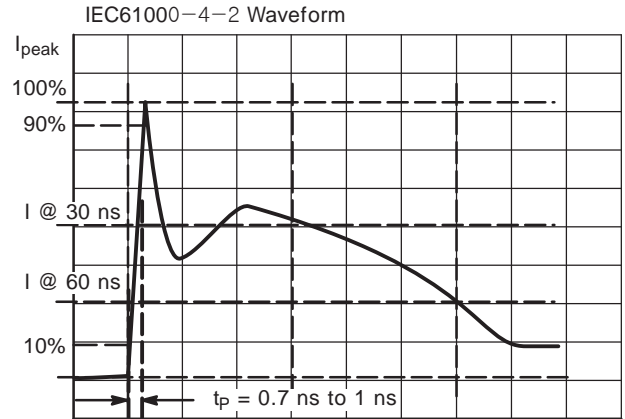

Figure 3. IEC61000-4-2 Spec
- For test procedure see Figures 3 .